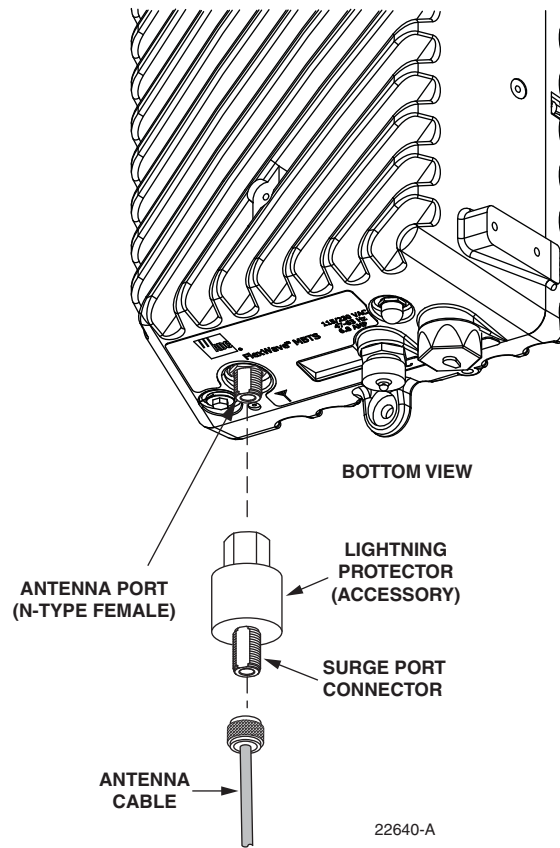

Figure 4-4: Connecting Base Station Antenna Cable to Antenna Port
- 1 Remove the dust cap from the N-type female connector located on the underside of the enclosure as shown in Figure 4-4.